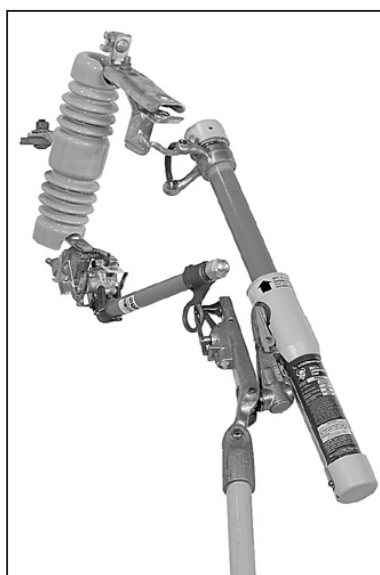

Figure 5. Loadbuster in tripped position.
Step 3 To open the circuit, operate Loadbuster with a firm, steady pull until it is extended to its maximum length. See Figure 5. Avoid jerking and hesitation. The resetting latch will keep it open. Generally, there will be no indication of circuit interruption, but commutation arcing may be noted at the pull-ring hook and at the anchor, particularly when interrupting load currents approaching the rating of the tool. The only sound will be that of Loadbuster tripping.